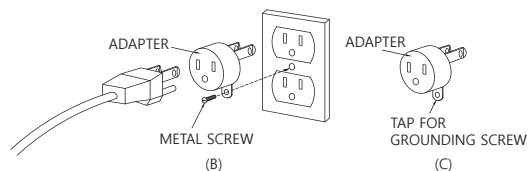

Figure 1
- ② This product is for use on a normal 120V circuit and has a grounding plug that looks like the plug illustrated in sketch A in Figure 1. A temporary adapter, which looks like the adapter illustrated in sketches B and C, may be used to connect this plug to a 2-pole receptacle as shown in sketch B if a properly grounded outlet is not available. The temporary adapter should be plugged into a properly grounded outlet (should be installed by a licensed electrician). The green colored wire from the adapter must be connected to a permanent ground.